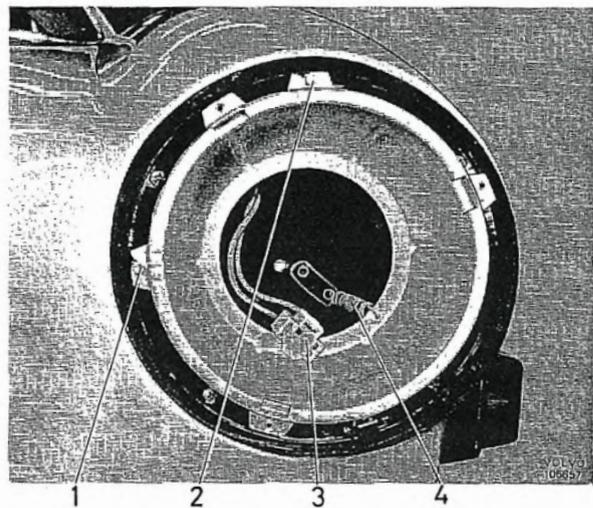

Fig. 3-85. Headlight casing
4. Unhook the spring (4, Fig. 3-85) from the slide casing. If necessary, slacken the screws (1 and 2, Fig. 3-85).
From the viewpoint of traffic safety, it is of the utmost importance that the headlights are adjusted in accordance with current regulations. Adjustment is done by means of the two screws (1 and 2, Fig. 3-85). The adjusting should be carried out with the help of an approved light-adjusting unit.